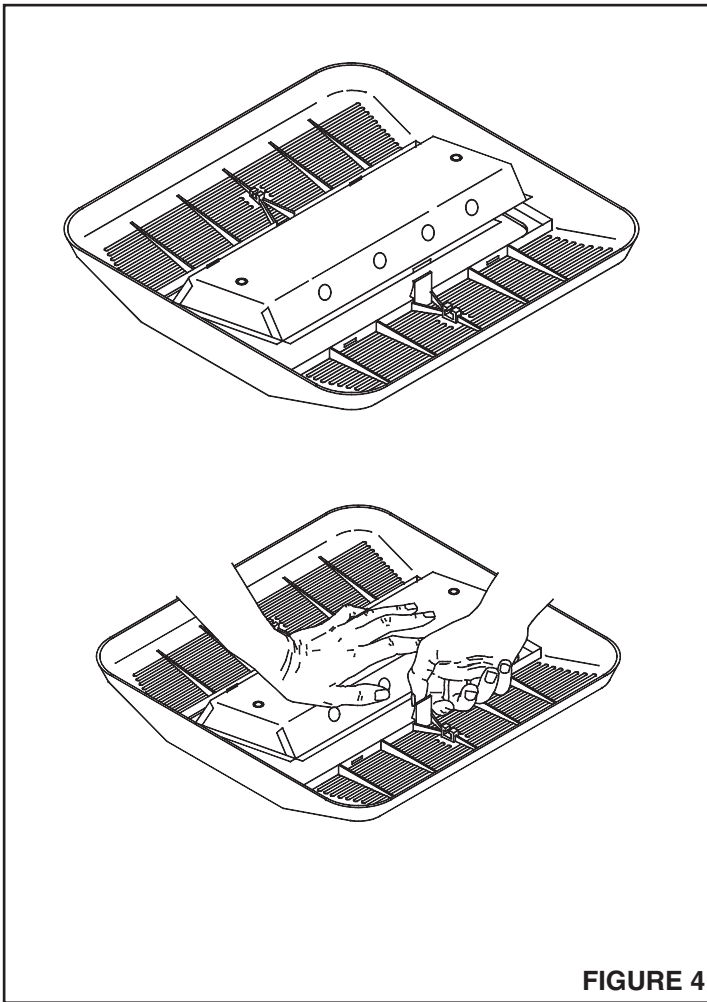

FIGURE 4
1. Refer to Figure 4. Open reflector on back of grille by depressing latch and lifting up on reflector. Install one 100 watt maximum Type A incandescent lamp. Note: reflector holds glass diffuser in place. Be careful that diffuser does not drop out of grille. Close reflector and snap into position.
2. Refer to Figure 4. Place the grille on a table or counter top. Open reflector by depressing latch and lifting up on reflector. Note: Reflector holds glass diffuser in place. Be careful that diffuser does not drop out of grille. Replace lamp with one 100 watt maximum type A lamp. Close reflector and snap into position.